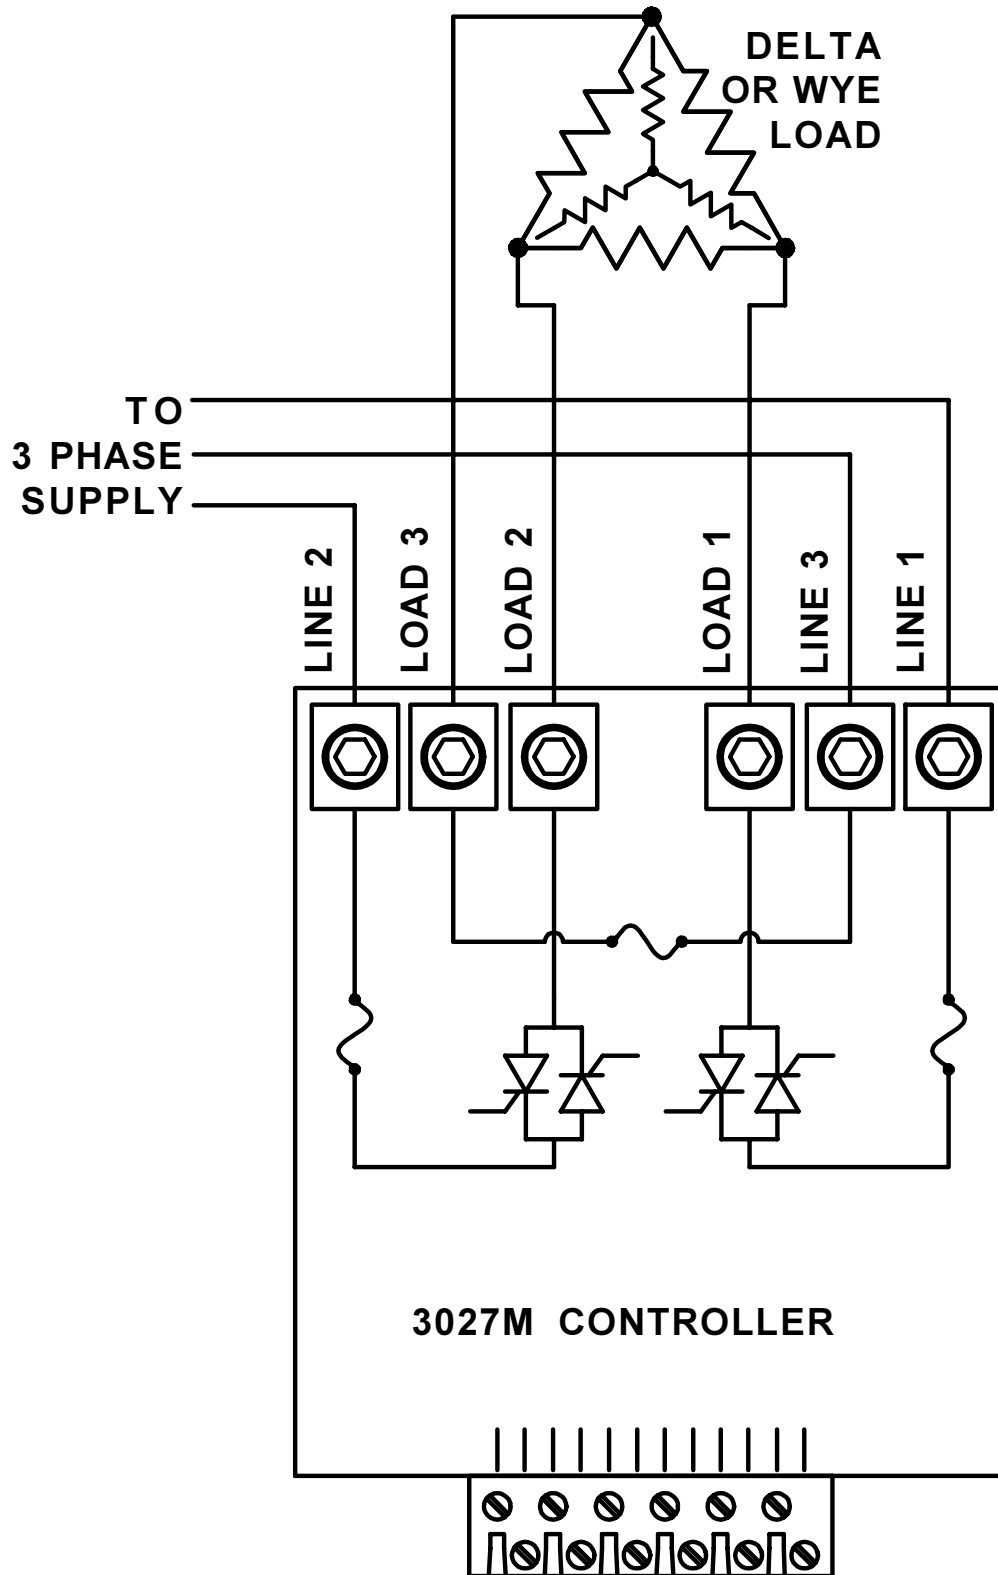

Figure 4. In-line power connections.
3. Determine that line voltage is present on line 1 and line 2 input terminals and that the load is wired correctly. See figure 4.
6. Determine that 10 Vdc $\pm 0.5V$ is present between terminals P2-6 (CCW) and P2-8 (CW) on the command connector.